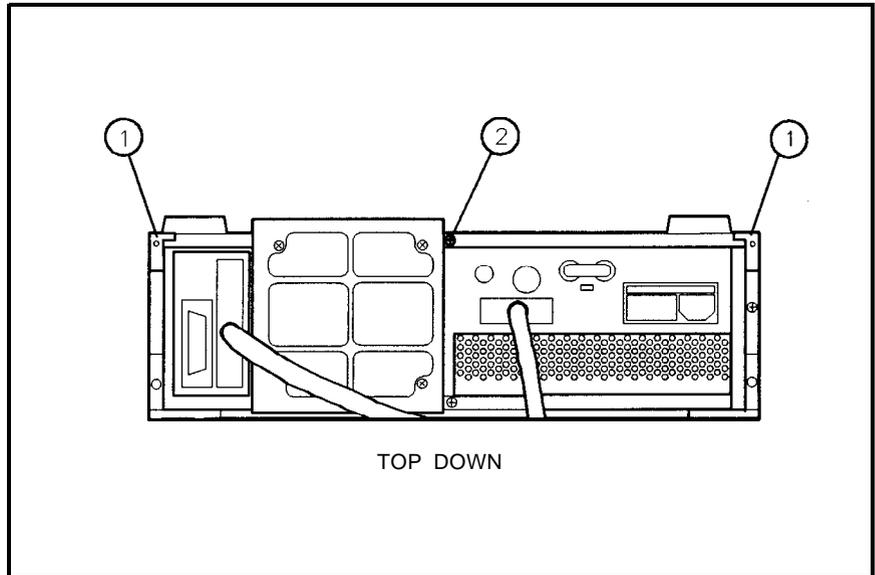

Figure 2-15. Removing the Bottom Cover
2. Using a Pozidriv screw driver, remove the two RF section rear-panel bumpers. See ① in Figure 2-15.
3. Back out screw ② (Figure 2-15) and the cover unseats from the front frame. When the cover is clear of the rear frame, remove the cover by lifting up.